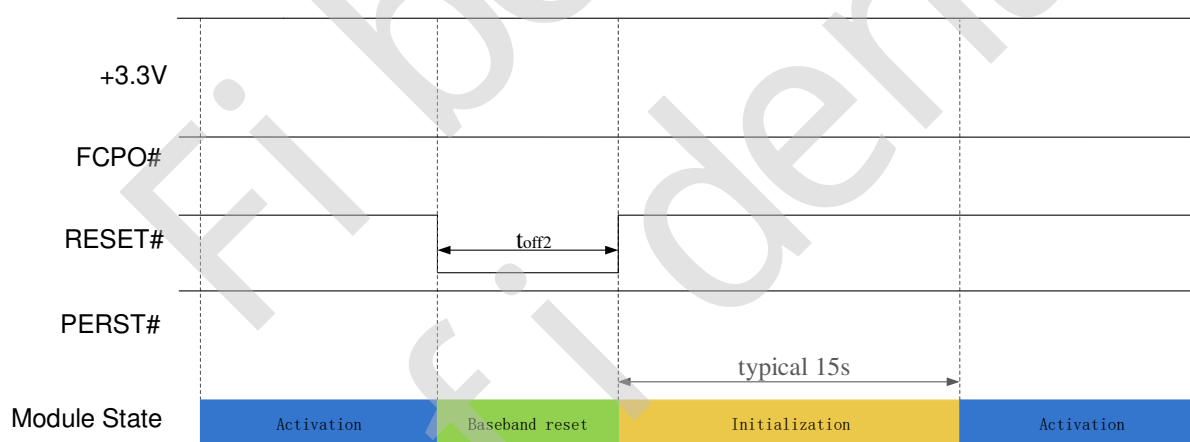

Figure 3-8 Reset control timing 1st
- Reset timing 1st in Figure 3-8, PMU of module internal always on in reset sequence, recommend using in FW upgrade and module recovery;
Modem FW upgrade / Modem recovery	Refer to section <a href="#">3.3.3</a> Figure 3-8 Reset control timing 1st